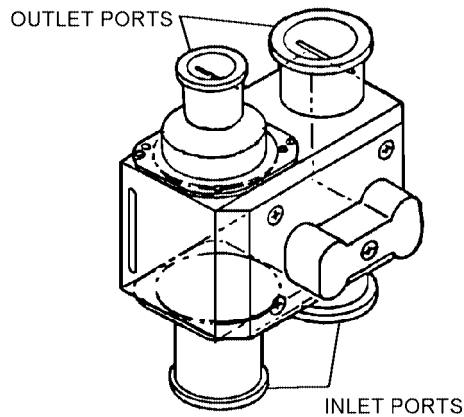

Figure 4-21. H-Manifold
4-29. H-Manifold. The H-manifold (figure 4-21) is a four port crossover valve. Receiving connecting hoses from the mask and hoses from the pusher fan subassembly and oxygen delivery subassembly (variants (V)2 - (V)4).